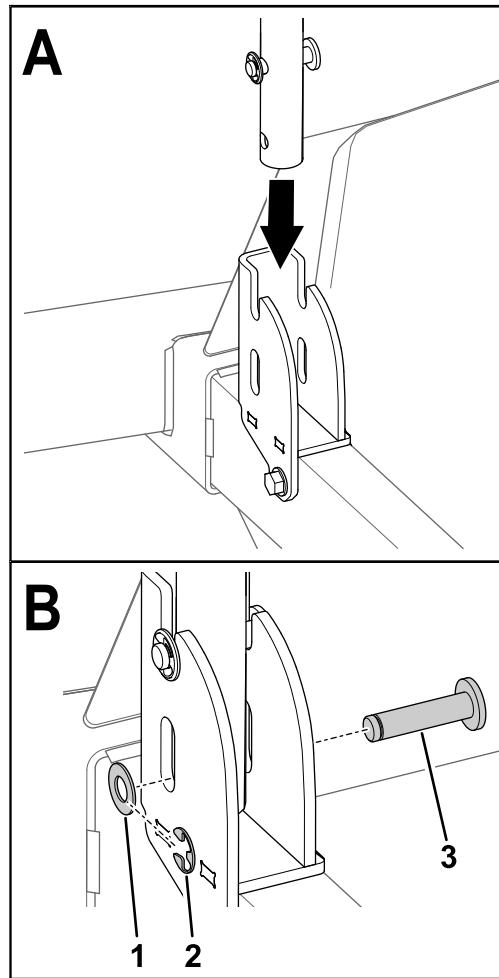

Figure 5
2. Assemble the grooved pin through the slot in the bracket and the hole in the assist handle (Figure 5).
3. Secure the pin to the bracket and handle with the washer (3/8 inch) and the retaining ring (Figure 5).